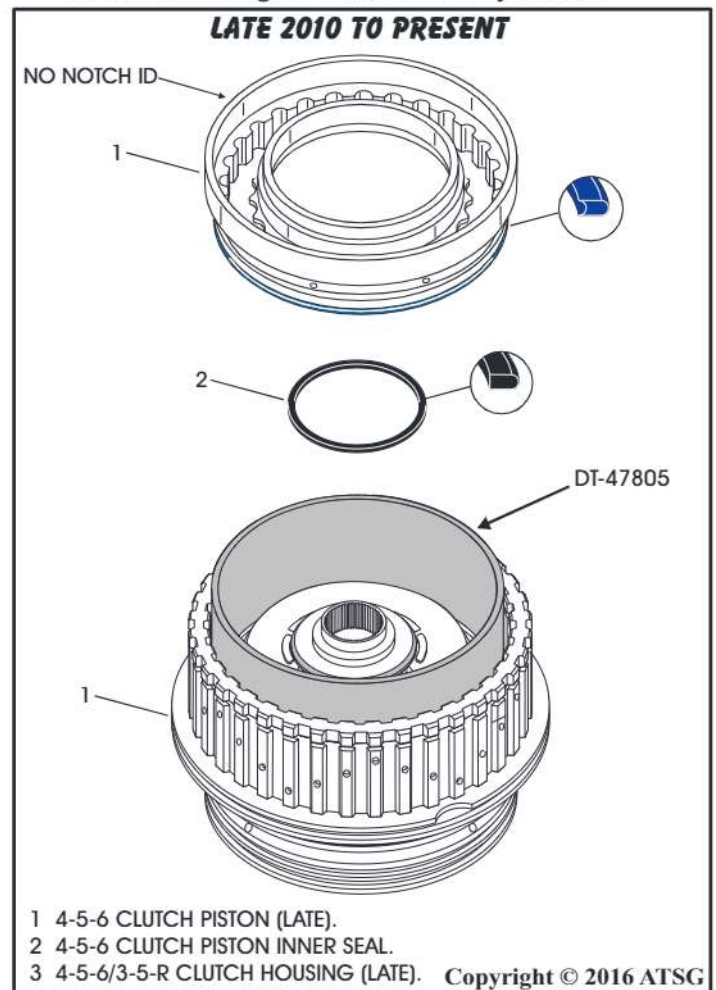

Figure 107
51. Install new 4-5-6 clutch piston **"Stepped", Blue** outer seal into the groove in the piston, as shown in Figure 107.
52. Install new 4-5-6 clutch piston **"Rounded", Black** outer seal into the groove in the drum, as shown in Figure 107.
53. Install new 4-5-6 clutch piston inner seal into the clutch housing, as shown in Figure 107, and lube with small amount of transmission fluid.
55. Lube the 4-5-6 clutch piston outer seals and the inside diameter of piston with small amount of transmission fluid, (See Figure 107).
56. Install 4-5-6 clutch piston assembly into housing, as shown in Figure 107, until fully seated.